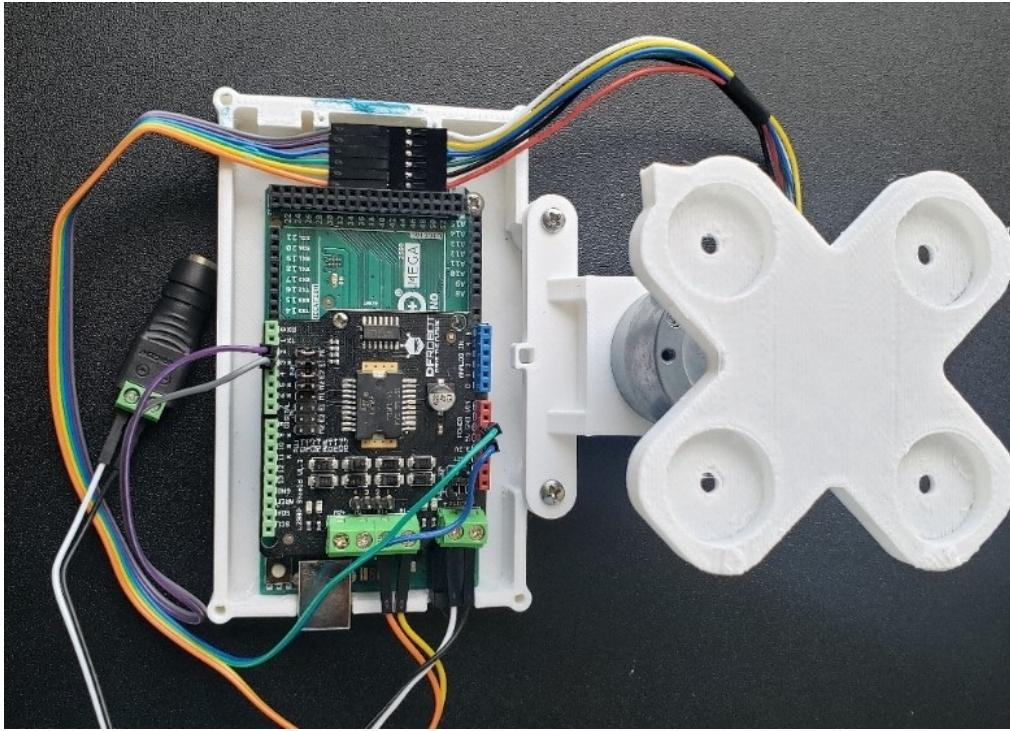

Figure 8: Complete hardware setup.
13. To stop the base from moving, put a small sphere of sticky tack in each corner of the base and then press the base onto a flat surface. Once you are done, your setup should look like Figure 8